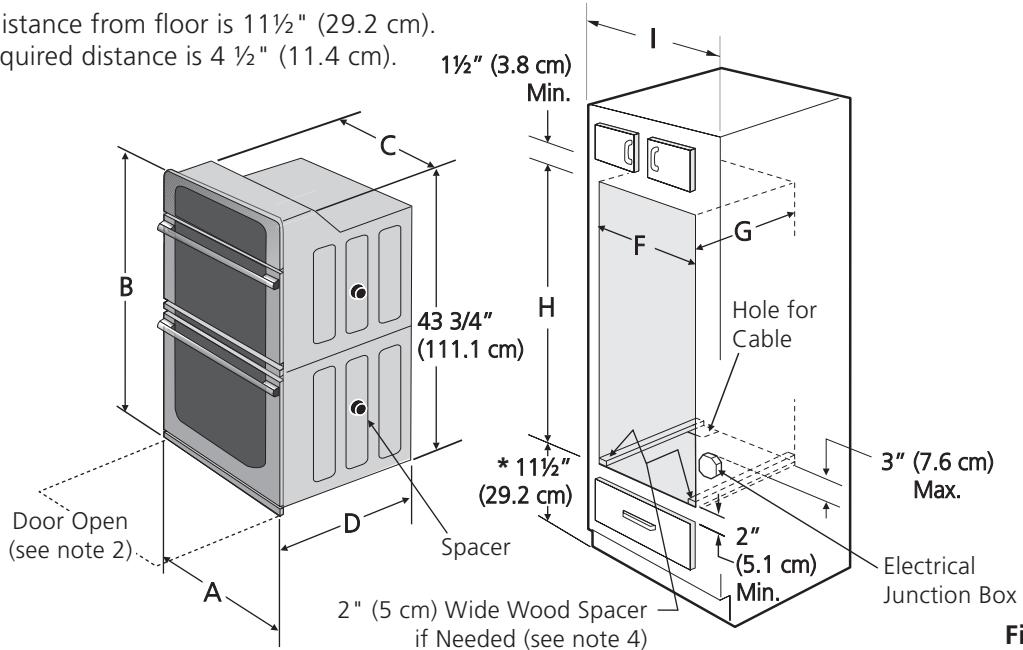

Figure 1
Refer to figure 1 for the dimensions applicable to your appliance, and the space necessary to receive the combination oven. The oven support surface may be solid plywood or similar material, however the surface must be leveled from side to side and from front to rear.
2. These appliances should be connected to the fused disconnect (or circuit breaker) box through flexible armored or nonmetallic sheathed cable. The flexible armored cable extending from the appliance should be connected directly to the junction box. The junction box should be located as shown in Figure 1 and with as much slack as possible remaining in the cable between the box and the appliance, so it can be moved if servicing is ever necessary.
**! CAUTION** In cold weather shipping and storage conditions, make sure that oven is in final location at least three (3) hours before switching on power. Switching on power while oven is still cold may damage the oven controls.